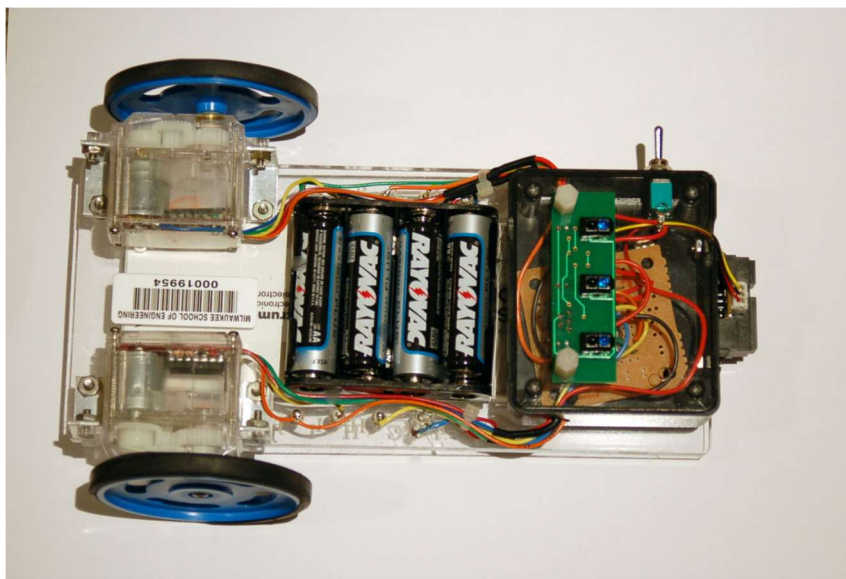

Figure 2: Bottom View of the Laboratory Robot
Figure 2 shows a bottom view of the laboratory robot. The robot sensors and motors operate from logic voltages 0V and 5V. Thus, four (4) AA batteries generate a 6V power supply. Each AA